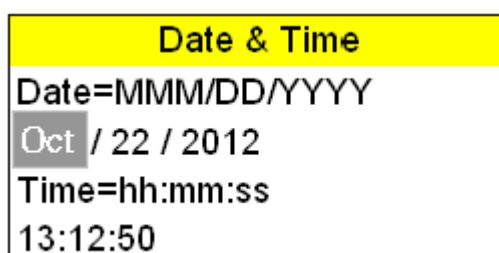

Figure 111
- B. Press  button to the editing mode as shown in Figure 111. Press  or  button to change the Month. Press  button to store the parameter.